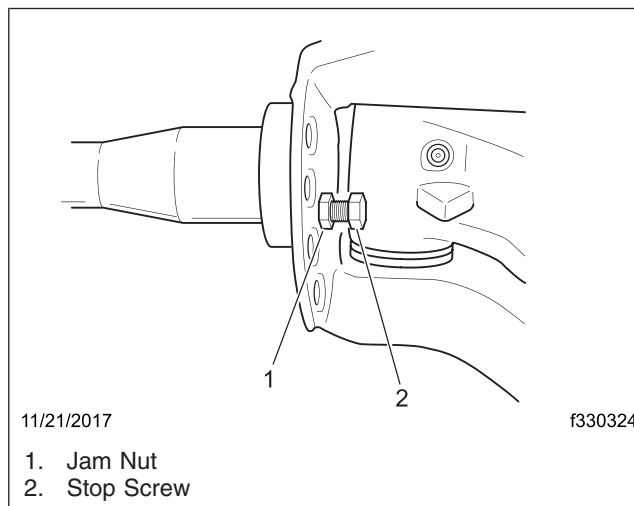

Fig. 29, Jam Nut Installation
3. If adjustment is required, loosen the jam nut and turn the stop screw as necessary. See Fig. 29.